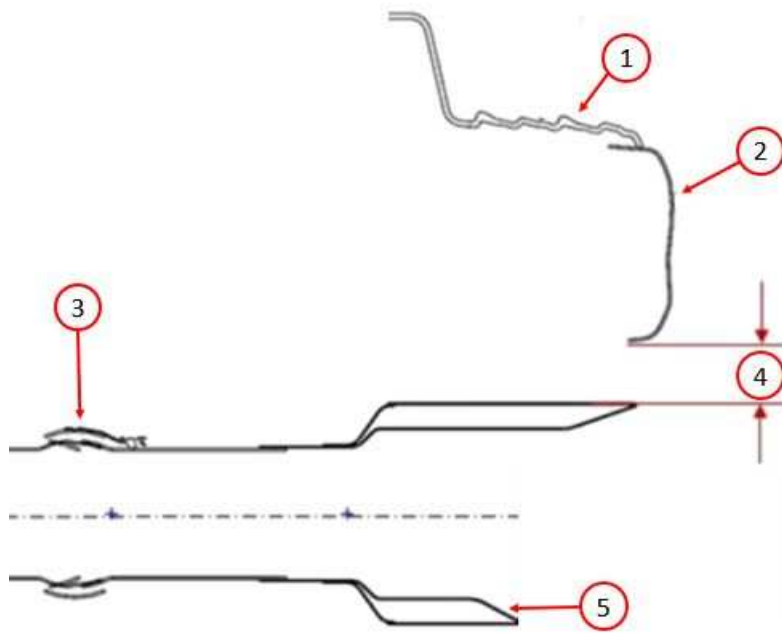

Fig. 2
1. Loosen the exhaust tips clamps. Center the exhaust tips in the bumper opening. The top of the exhaust tip should be 35.1 mm (1 3/8 in) from the bottom of the rear fascia (Fig. 2) .